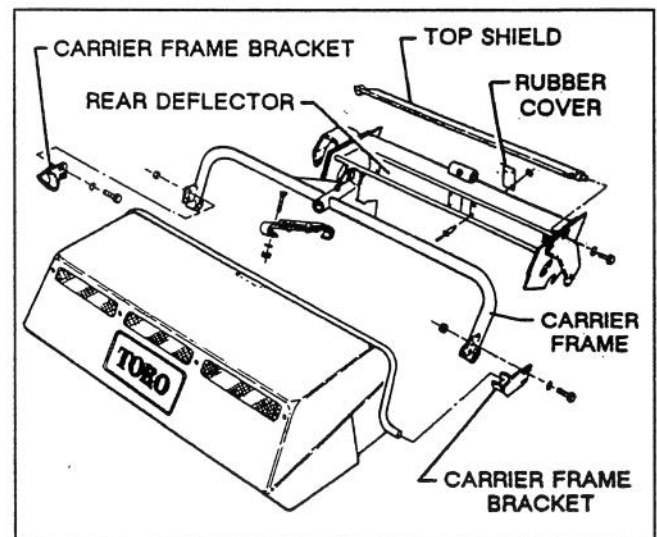

Figure 3
1. Remove the top shield from the front two cutting units. The shields removed may be saved for future use if the basket assemblies are ever removed (Fig. 3).
3. Using the pop rivets and backup washers, supplied with kit, mount the covers to the outside of the deflectors. Rivet heads to be positioned toward the reel (Fig. 3).
5. Install the new shield on top of the front two cutting units (Fig. 3). Use the original side plate mounting bolts but reverse and thread into deflector with the lockwasher under the head of the bolt (Fig. 3).
1. Mount the **longer**, carrier frame brackets to all (3) carrier frames with 3/8-16 x 1-1/4" lg. capscrews and flatwashers, locating brackets as shown in figures 3 & 5. Capscrew heads to be positioned toward center of cutting units.